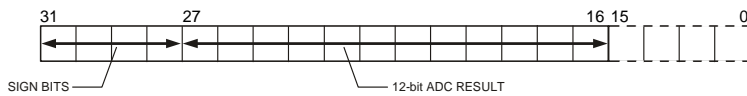

Figure 31: ADC Result Format
The top 4 bits are the sign bits and the 11-bit result is placed from bit 16 to 27 as shown in Figure 31. Again, it should be noted that in fully differential mode, the result is represented in two's complement format shifted one bit to the right, and in pseudo differential and single-ended mode, the result is represented in straight binary format.
- **ADCDAT:** ADC Data Result Register, hold the 12-bit ADC result as shown Figure 31